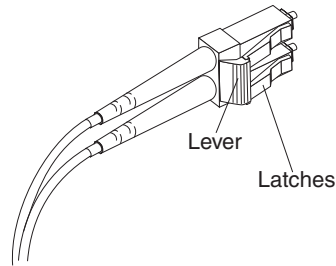

Figure 24. LC-LS Fibre Channel Cable lever and latches
1. On the end of the cable that connects into the LC connector end of the LC-SC cable adapter, press down and hold the lever to release the latches. Figure 24 shows the location of the lever and latches.